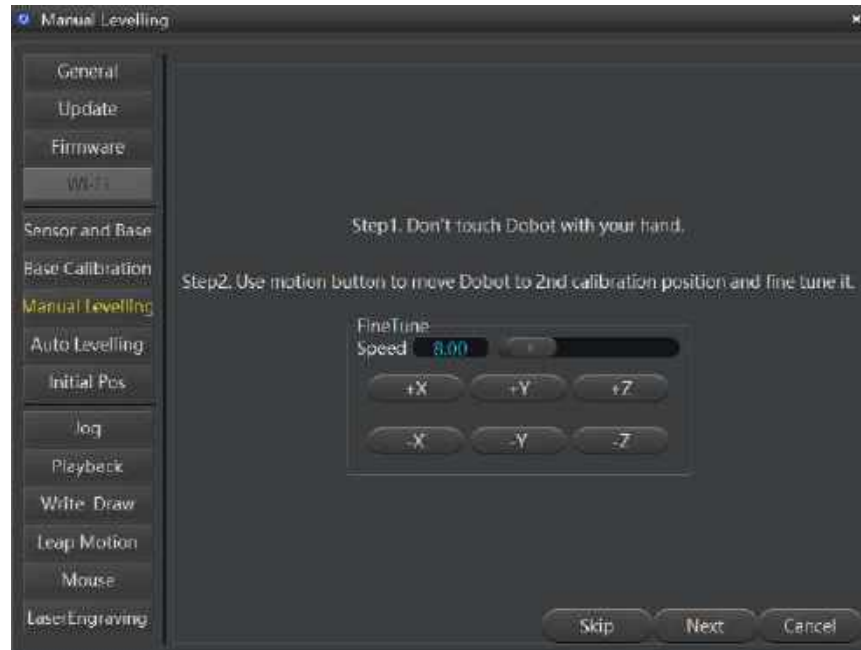

Figure 5.150 Fine-tune page
Step 6 Click **Next** and follow the instructions on the **Manual Levelling** page (as shown in Figure 5.150) to move Dobot Magician to make the nib in the center of the second